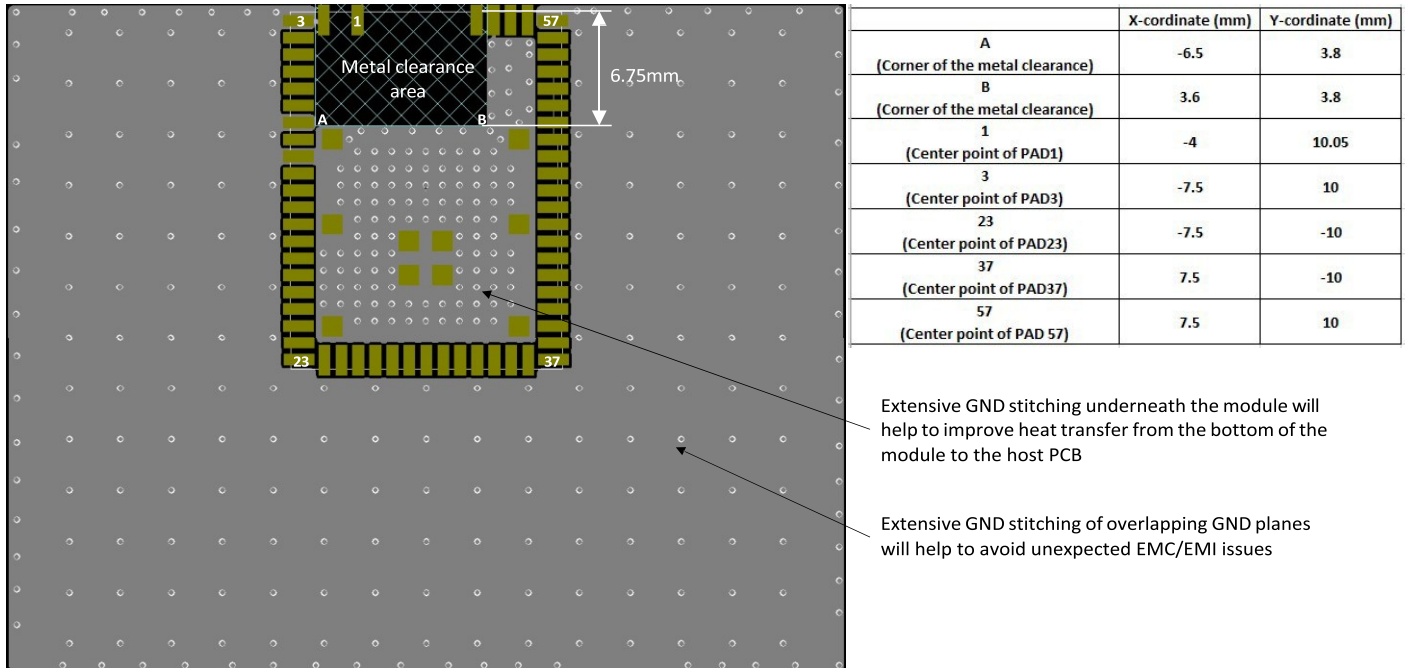

Figure 8.18. Application Layout of SL917 Integrated Antenna NCP Module
- Place the module aligned to the edge of the application PCB, as illustrated in Figure 8.18 on page 60.